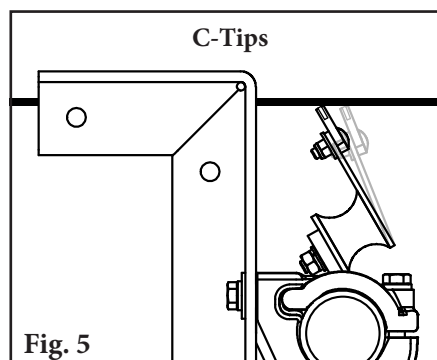

Fig. 5
5. **Set the tip tension.** With all clamp block lock bolts slightly loosened, back down the bottom adjusting bolt jam nut 4–5 turns on both sides (Fig. 5). Turn the top adjusting bolt jam nuts down until light contact is made between the tips and belt across the entire width of the cleaner. Give an additional 1 turn to both top adjusting bolt jam nuts.
5. **Check the blade tip tension.** Pull back on the outer blade in the direction of belt travel until the blade breaks contact with the belt. Let go of the blade. With correct tension the full thickness of the adjacent blade tip should be visible in front of the outer blade (Fig. 5 & 5a). Check the center blade in same manner. Add tension in 1/4-turn increments on the top adjusting bolt jam nuts until view of full thickness of the adjacent blade tip is achieved.